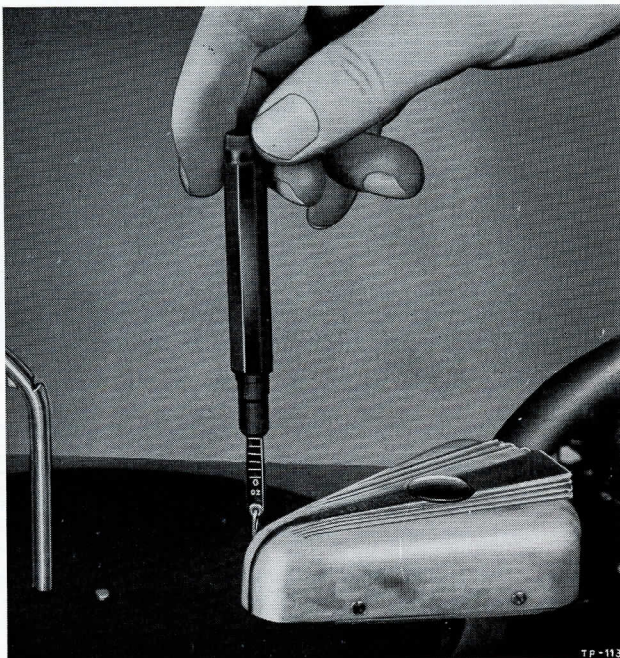

FIGURE 24. MEASURING TONE-ARM WEIGHT AND VERTICAL FRICTION
3. Check the vertical friction in the tone arm by attaching the 2-oz. scale, Part No. 45-2958, to the pick-up plastic cover, as shown in figure 24, and raising the scale and tone arm $1\frac{1}{4}$ " above the turntable. Observe the reading during this operation. Lower the tone arm with the scale attached and note the reading. The difference in weight is the vertical friction, and this must not exceed $\frac{1}{4}$ oz.
13. Three different tone arms were used in the 1942 Philco Automatic Record Changer and the three tone arms require different counterbalance weights. The aluminum tone arm requires a $1\frac{1}{2}$ -oz. weight, the zinc arm, identified by a yellow paint dot on the underside, requires a 5-oz. weight, and the bakelite arm requires a 3-oz. weight. The weight of all three types of tone arms should be $1\frac{1}{2}$ to $1\frac{5}{8}$ ozs., when equipped with the correct counterbalance weight. To check for the correct weight, turn the tone-arm weight-adjusting screw, figure 27, counterclockwise until all spring tension is released. Hook the 2-oz. scale, Part No. 45-2958, to the nose of the pick-up plastic cover, as shown in figure 24. This scale is graduated in $\frac{1}{8}$ -oz. divisions; the correct reading for $1\frac{1}{2}$ ozs. is the unbroken line above the figure six and for $1\frac{5}{8}$ ozs., is the broken line and figure seven. If the weight does not conform to these readings, replace the counterbalance with the correct weight, as described above.
14. Again measure the tone-arm weight, figure 24, and turn the adjusting screw, figure 27, clockwise until a weight reading of $1\frac{1}{4}$ ozs. (Figure five on the scale) is obtained. This is the correct weight for each type of tone arm.